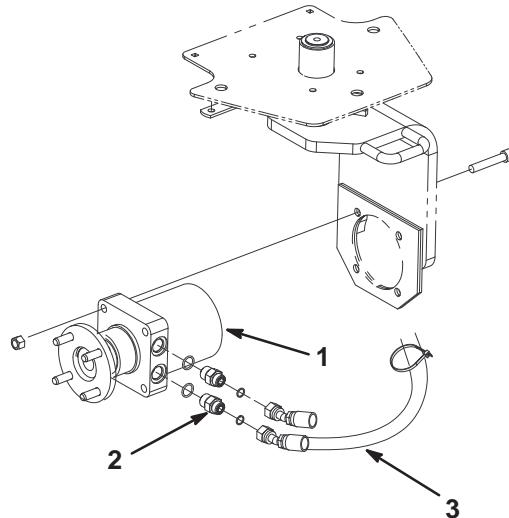

Figure 2
- Mount (2) straight hydraulic fittings to the side of the new wheel motor (Fig. 2).
- Mount the 45° fitting ends of the hydraulic hose assemblies to the straight fittings on the motor (Fig. 2).
- Mount the motor assembly to the castor fork with the (4) bolts and nuts previously removed. Position the motor assembly as shown in figure 2.
- Mount the tire assembly to the motor and hub assembly with the (4) lug nuts previously removed. Torque the lug nuts to 70 to 90 ft.-lb (95 to 122 N·m).